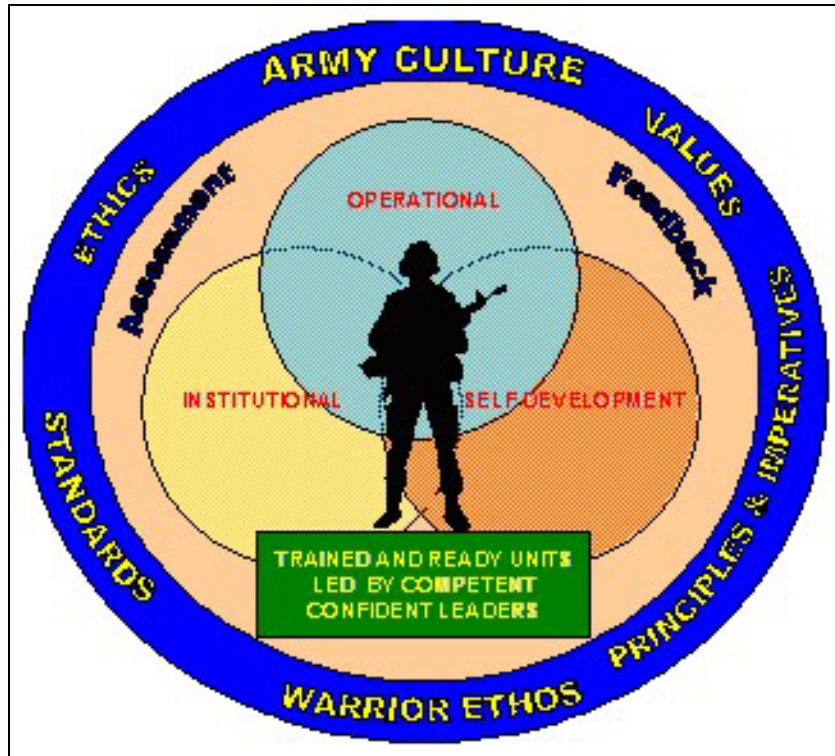

Figure 1-2. Army Training and Leader Development Model
(1) Training is a team effort and the entire Army -- Department of the Army, major commands (MACOMs), the institutional training base, units, the combat training centers (CTCs), each individual soldier and the civilian workforce -- has a role that contributes to force readiness. Department of the Army and MACOMs are responsible for resourcing the Army to train. The Institutional Army, including schools, training centers, and NCO academies, for example, train soldiers and leaders to take their place in units in the Army by teaching the doctrine and tactics, techniques, and procedures (TTP). Units, leaders, and individuals must train to standard on their assigned missions, first as an organic unit and then as an integrated component of a team. Operational deployments and major training opportunities, such as major training exercises, CTCs, and external evaluations (EXEVALs) provide rigorous, realistic, and stressful training and operational experience under actual or simulated combat and operational conditions to enhance unit readiness and produce bold, innovative leaders. The result of this Army-wide team effort is a training and leader development system that is unrivaled in the world. Effective training produces the force -- soldiers, leaders, and units -- that can successfully execute any assigned mission.
(2) The Army Training and Leader Development Model (Figure 1-2) centers on developing trained and ready units led by competent and confident leaders. The model depicts an important dynamic that creates a lifelong learning process. The three core domains that shape the critical learning experiences throughout a soldiers and leaders time span are the operational, institutional, and self-development domains. Together, these domains interact using feedback and assessment from various sources and methods to maximize warfighting readiness. Each domain has specific, measurable actions that must occur to develop our leaders.